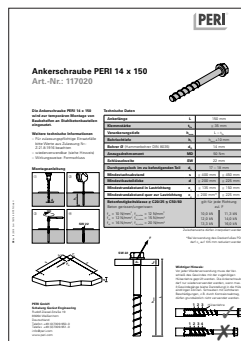

Fig. A2.11
- For information on fitting the PERI Tie Bolt 14 x 150, see the data sheet. (Fig. A2.11)